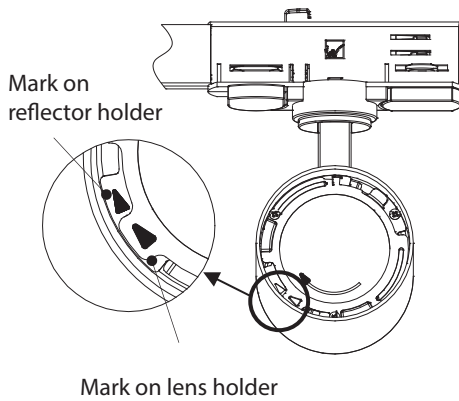

Fig.11
Step 4: Align the triangle mark on the lens holder to the one on the reflector holder, then rotate clockwise to lock it. (See **Fig 11**)